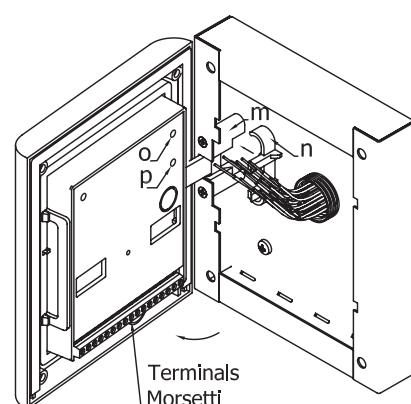

Fig.8
7. As shown in figure 8, open the module support frame as suggested by the pointer, hook the hinge lock m to the hinge n. When the support frame is hooked to the surface box, do the following operations:
- 7b. test the system and if it is necessary adjust the loudspeaker and microphone volume through the trimmers accessible from the openings and (fig.8);